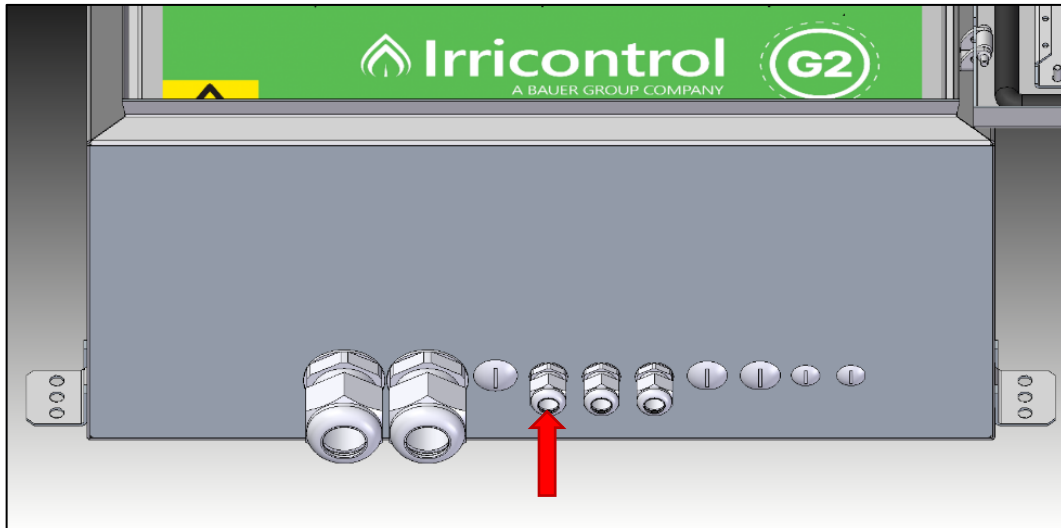

Figure 14 - Cable gland (PG) for pressure switch cables.
- A. Pass the pressure switch cables through the PG13.5 cable gland, shown in Figure 14.